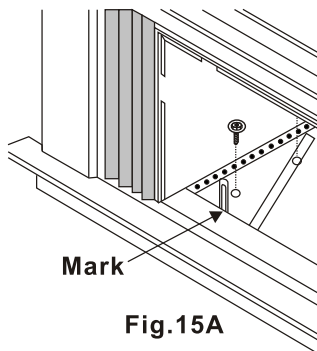

Fig.15A
1. Hold each support bracket flush against outside of sill, and tight to bottom of cabinet as shown in Fig.15A. Mark brackets at top level of sill, and remove.